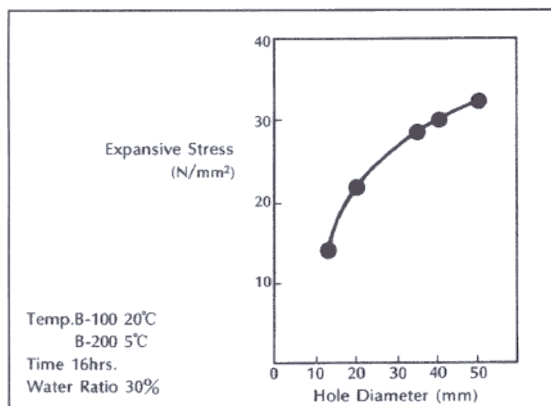

Fig.3: The relation between the expansive stress and hole diameter
2) The larger the hole diameter is, the greater the expansive stress becomes (Fig.3).